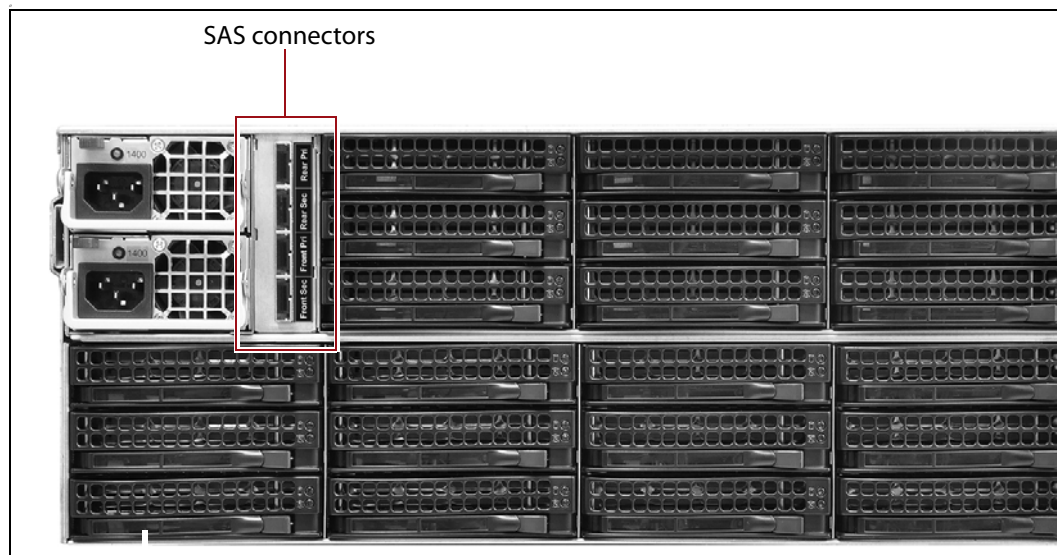

Figure 2 The SAS connectors on an expansion node.
7. Connect one of the cables to the **Front Sec** port on the first expansion node (see Figure 2 on page 12).